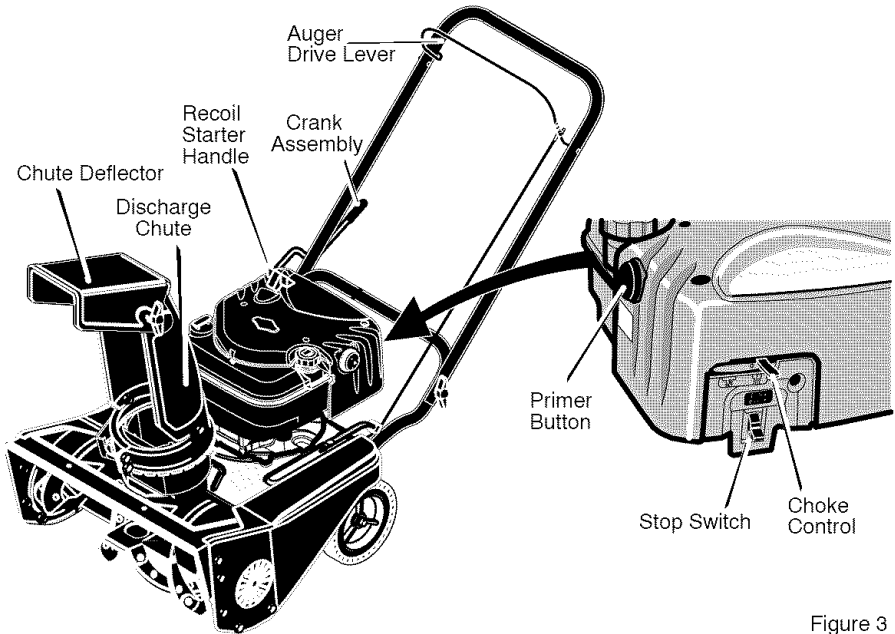

Figure 3
1. To stop throwing snow, release the **auger drive lever**. See Figure 3.
1. Push the **stop switch** to the ON position (see Figure 3).